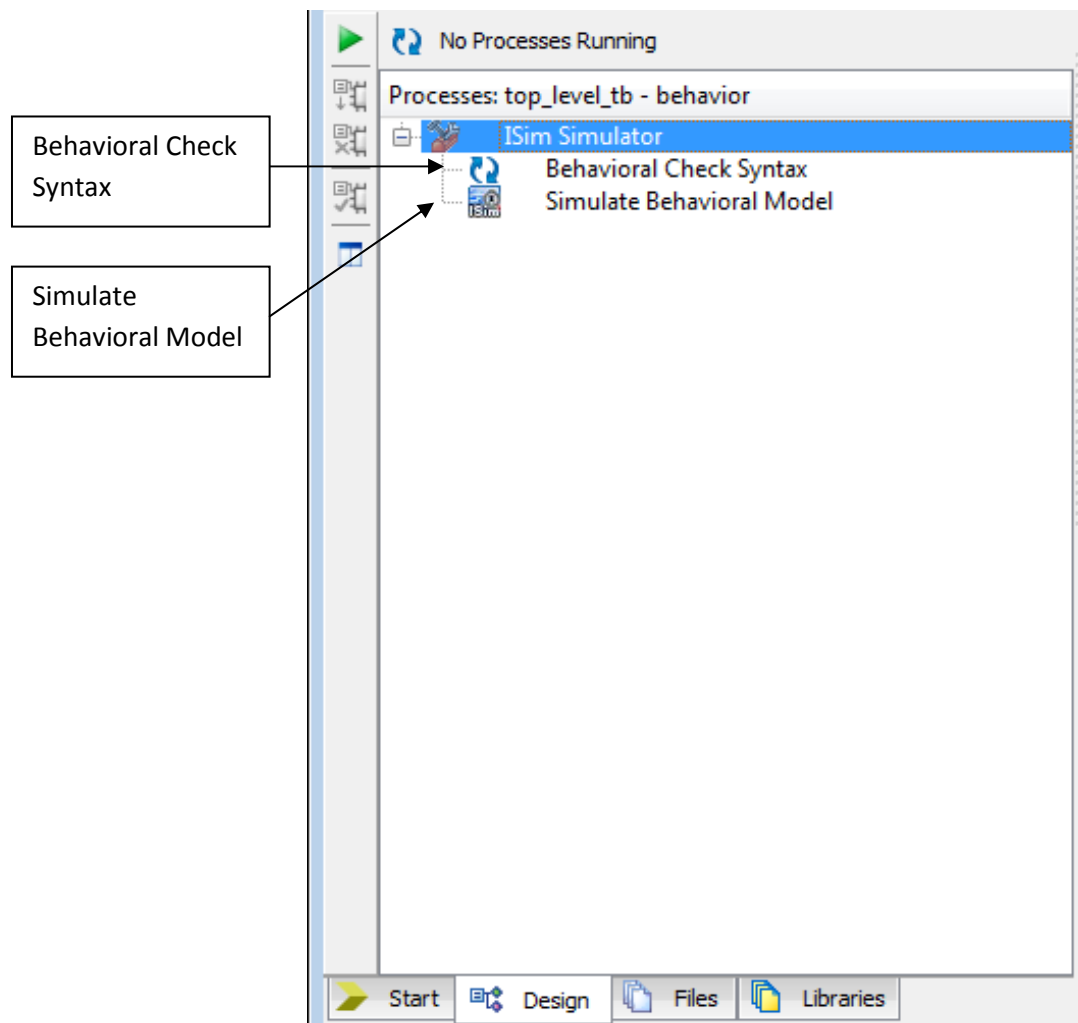

Figure 4.13: Portion of Project Navigator screen, with ISim Simulator expanded.
1. As shown in Figure 4.13, if it is not already expanded, click on the '+' next to the **ISim Simulator**. This will expand out to show **Behavioral Check Syntax** and **Simulate Behavioral Model**.